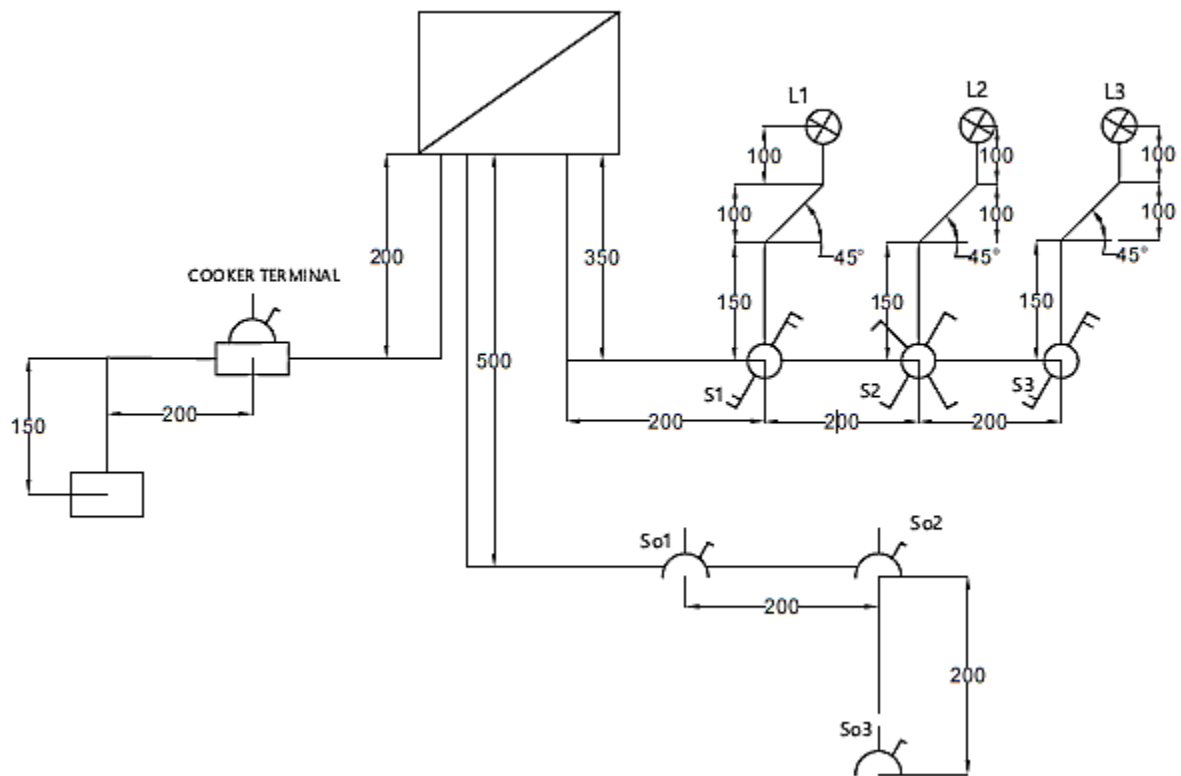

Figure 2
- i. Draw the wiring diagram for circuit shown in Figure 2 such that: